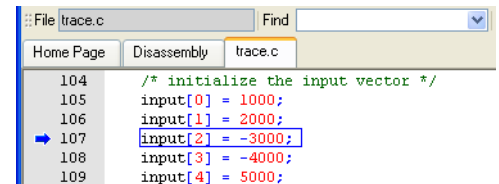

Figure 10-12 Source line corresponding to select trace sample
- In the Code window, click the **trace.c** tab in the Code window. The source line that corresponds to the selected trace sample is highlighted. Figure 10-12 shows an example: